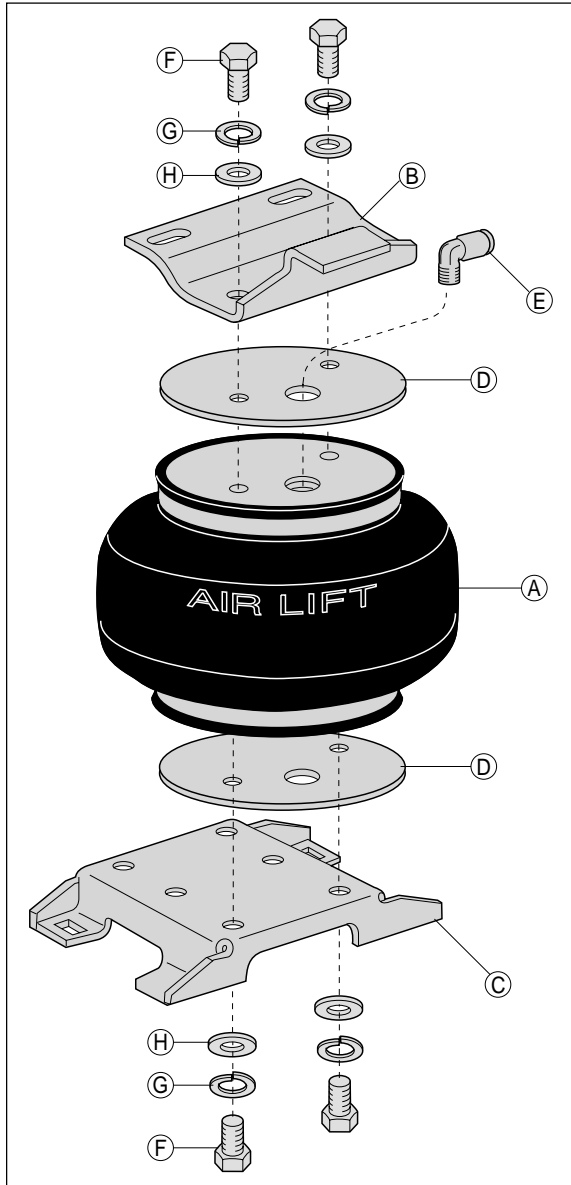

Figure 2
1. Place backer plate (D) on the top of the air spring (A).
2. Install 90° elbow fitting (E) to the top of the air spring. Tighten finger tight plus 1 and  $\frac{1}{2}$  turns. Be careful to only tighten on the metal hex nut. Do not over tighten.
3. Set the upper bracket (B) onto the air spring (A). Make sure that the air fitting port is on the same side as the tab. Attach the bellow-bracket assembly using  $\frac{3}{8}$ " bolt (F),  $\frac{3}{8}$ " lock washer (G), and  $\frac{3}{8}$ " flat washer (H). Tighten to 20 ft-lbs (Figure 2).
4. Set a backer plate (D) onto the bottom of the air spring assembly.
5. Place the lower bracket onto the air spring assembly in an offset position (Figure 2).
7. Use a  $\frac{3}{8}$ " bolt (F), a  $\frac{3}{8}$ " lock washer (G), and a  $\frac{3}{8}$ " flat washer (H) through the holes marked with an "A" to attach the lower bracket and backer plate to the assembly. Again, be sure that the bellow is offset to the fitting side. Tighten hardware to 20 ft-lbs (Figure 2).